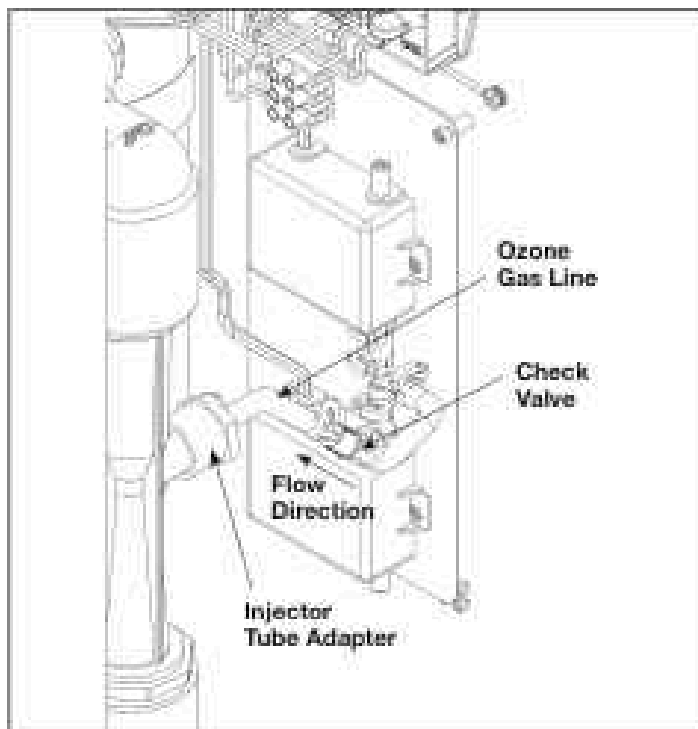

Figure 12. Ozone Generator System Overview
Gas from the ozone modules is drawn through the ozone gas line by the injector and into the water. The ozone check valve (refer to Figure 12 Angle View) in this line prevents water from migrating back to the ozone modules when the Jandy AOP is not running.
This component connects the ozone gas line to the injector manifold (refer to Figure 12 Angle View). When servicing this component, do not tighten past 10 in-lbs torque or the component may be damaged.
3. Disconnect the ozone module by tracing the ozone module power wiring back to the nearest connector and by unlatching hook tab on connector. See Figure 12.